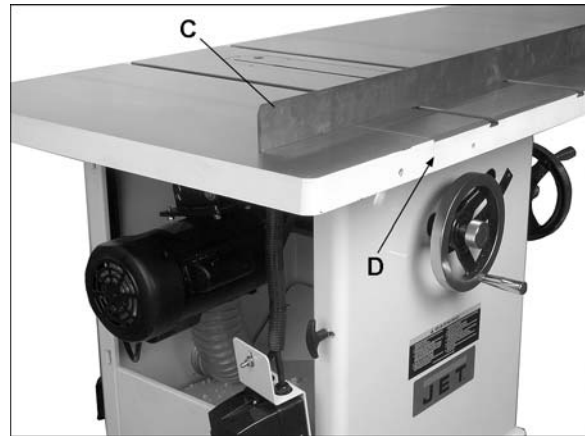

Figure 4
3. Slide extension toward front edge of saw table until the two front edges are flush (D, Figure 4). This will ensure proper guide rail installation.
4. Use a straight edge (C, Figure 4) to align extension to saw table and tighten screws.